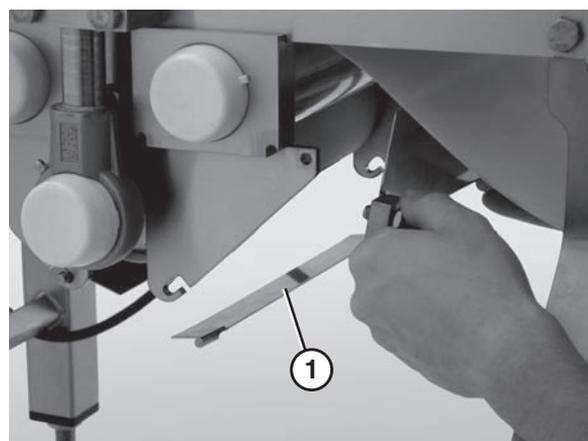

Figure 46
3. Lift up on the center drive guard (Figure 46, item 1) and remove it.